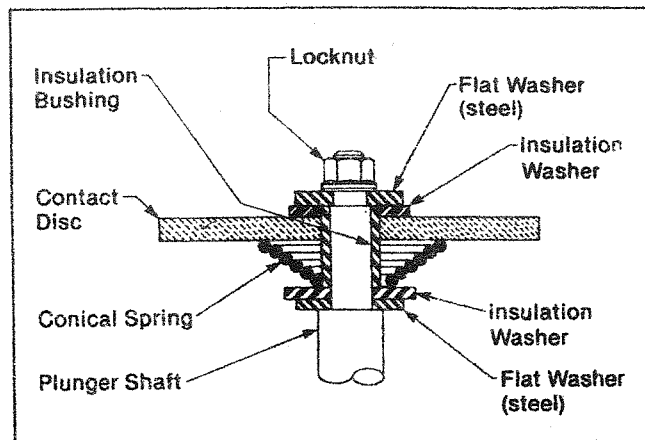

Figure 32
- 16.10 Apply a drop of Loctite #2114 on the shaft threads and install 1/4" locknut finger-tight to hold contact disc assembly together. Grip the plunger in a brass jaw vise and torque the nut to 55-60 lbs. in. See figure 32 for proper contact disc assembly.